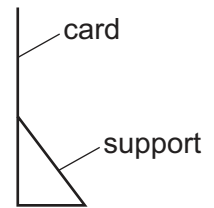

Fig. 3.3
- (iv) Screen. A white sheet of stiff card, approximately 15 cm × 15 cm and fixed to a wooden support, is suitable. See Fig. 3.3.